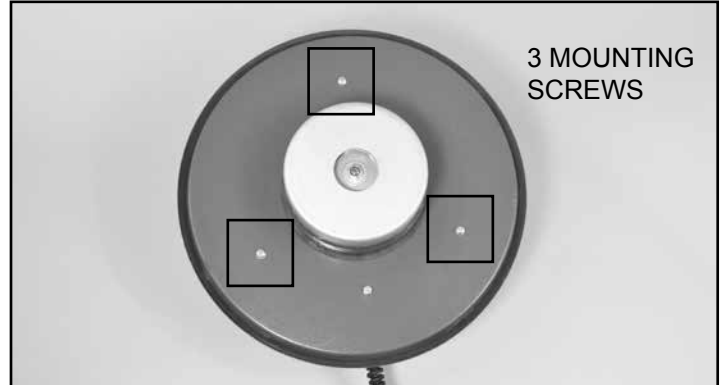

FIG. 8
2. Remove the lid cover from the head of the machine by unscrewing the three Phillips-head screws holding it in place. Slide the lid cover off to gain access to the inside of the motor. FIG. 8.